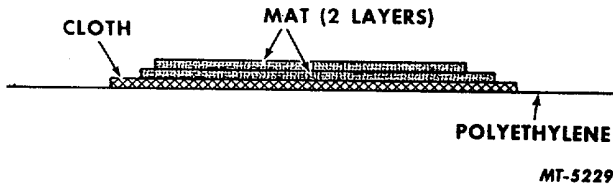

Fig. 4
4. Coat the inner surface of area being repaired with the resin mixture. When tacky, apply the patch prepared in item 3. Using the polyethylene sheet press out air pockets and allow patch to cure.
5. On a piece of polyethylene, place another piece of cloth larger than hole being repaired. Saturate with resin mixture. Apply two layers of mat (Fig. 4), saturating both with the resin mixture. Coat the outer surface of area being repaired with the resin mixture. When tacky, position the entire patch on the prepared surface and press into position. Allow the patch to cure.